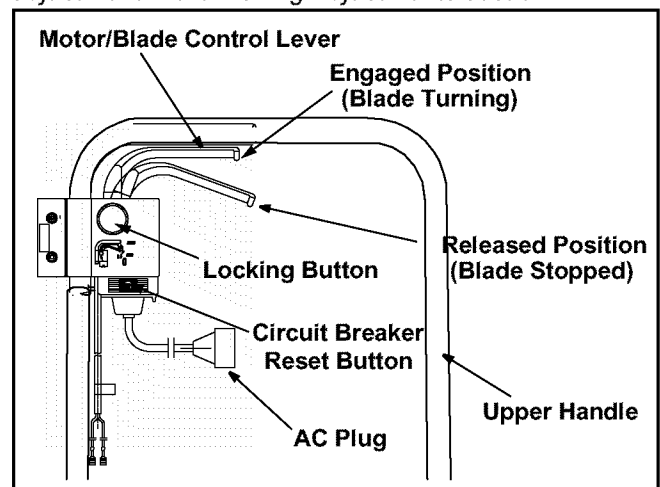

Figure 10
The mower is equipped with a circuit breaker, located on the motor/blade control. Refer to Figure 10. This circuit breaker may trip when too much strain is placed on the mower. See *Making Adjustments Section*.
To engage the motor and blade, first be certain to follow the previous steps for connecting a suitable extension cord, then referring to Figure 10:
The mower is equipped with a circuit breaker, located on the motor/blade control assembly as shown in Figure 10. This circuit breaker may trip when too much strain is placed on the mower. The circuit breaker may have been tripped if the mower will not run.
- If this occurs, unplug the mower, wait approximately five minutes, then depress the reset button. Refer to Figure 10.